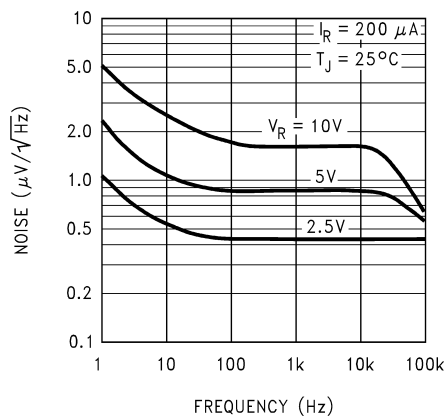

Figure 6-1. LM4050 Noise Voltage Versus Frequency
In Figure 6-1 the frequency domain plot is given from 1Hz to the complete frequency range. In this plot the noise level $k = 432\text{nV}/\sqrt{\text{Hz}}$ and a corner frequency $F_c = 65\text{Hz}$. Also the lower limit for flicker noise (FL) = 0.1Hz and the higher frequency limit (FH) is 10Hz. With this information the RMS flicker noise can be calculated as...